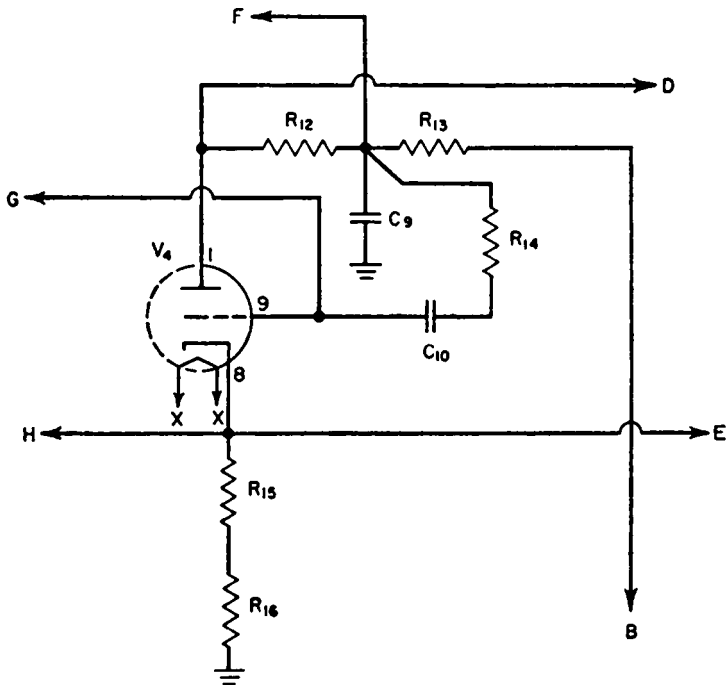

Fig. 7-9. Phase inverter.
**Phase inverter.** (See Figure 7-9) Locate all resistors and condensers on tie strips as close as possible to the tube socket terminals to which the resistors and condensers are to be connected. Note that coupling condensers C7 and C8 (see Figure 7-8) are now connected to points "D" and "E" (plate and cathode of phase inverter). Points "F," "G" and "H" remain unconnected until the next stage (the voltage amplifier) is wired.